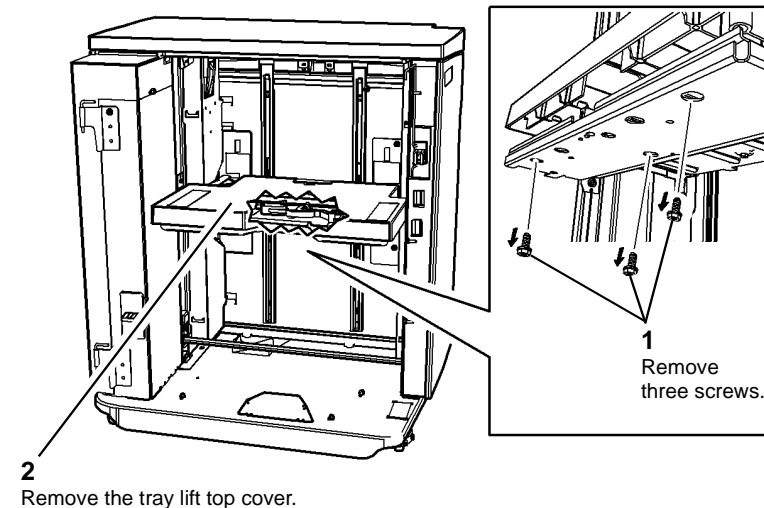

Figure 1 Paper tray release
2. Remove the tray lift top cover, Figure 1.